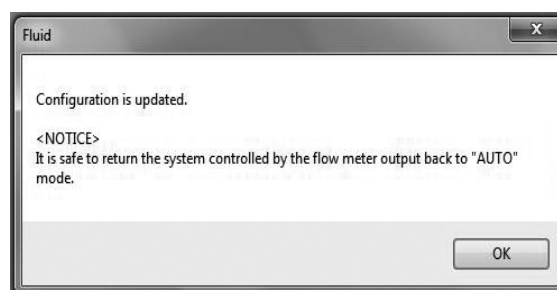

Fig. 3-35
- (5) Click "OK" button. If the setting is changed to the setting value you input, the message box (Fig. 3-35) will be displayed. Click "OK" button to complete the setting.